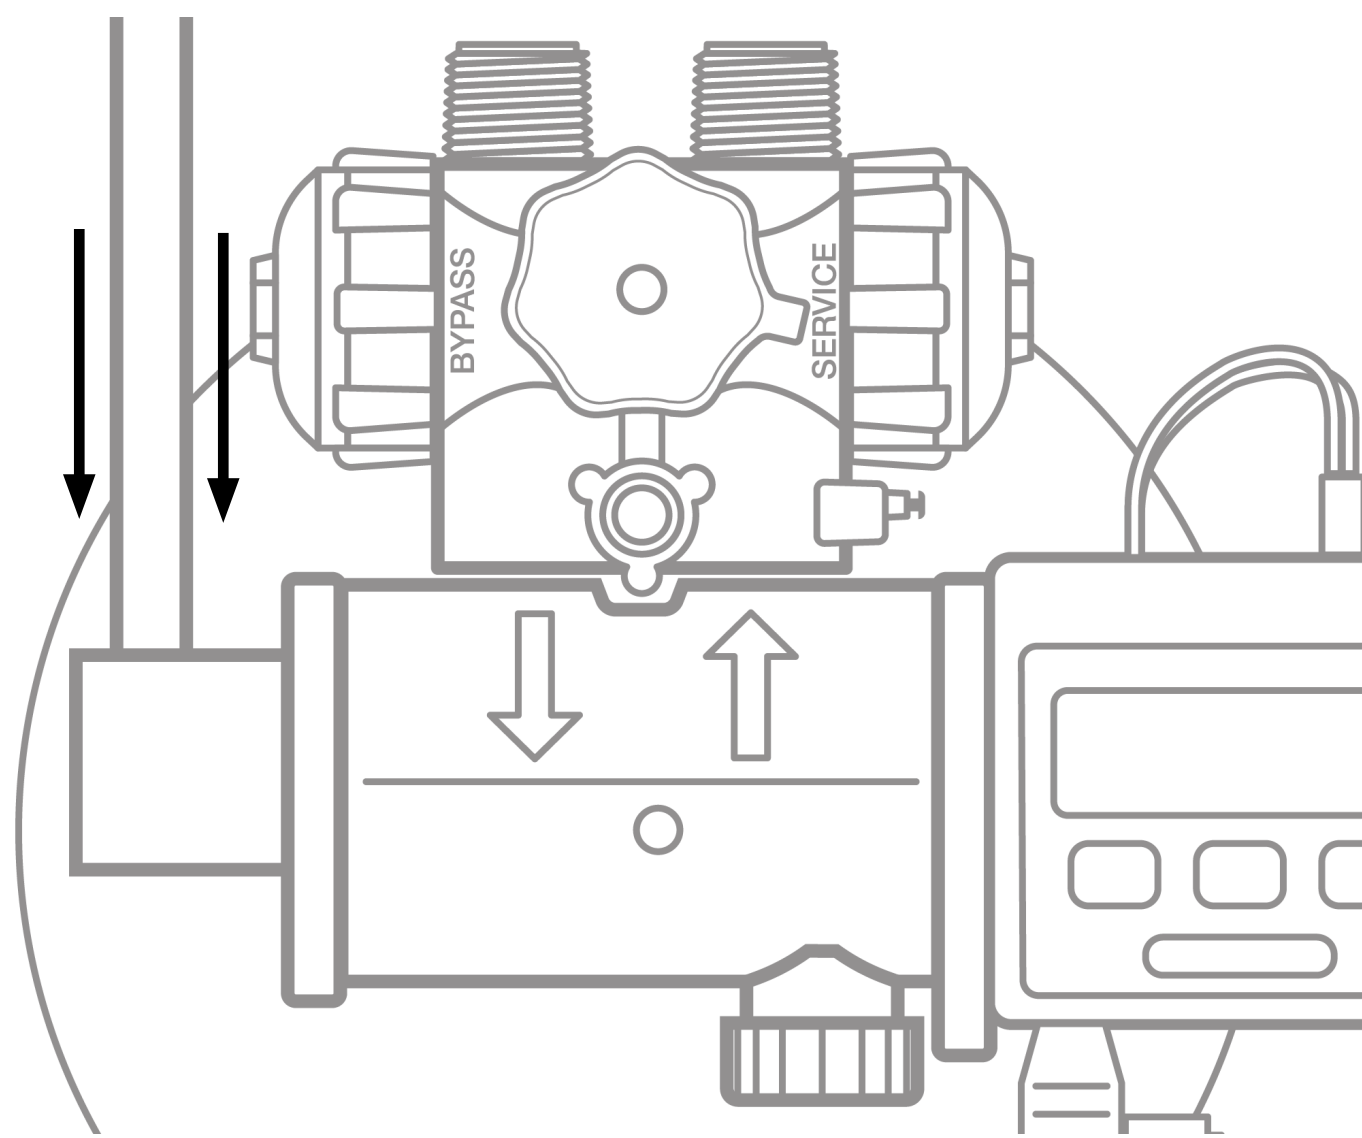

Figure 4: Connect Drain Line
- 1. Connect the drain line to the drain end cap (See Figure 4) with a minimum 1/2-inch I.D. tubing (supplied). The size cannot be reduced.